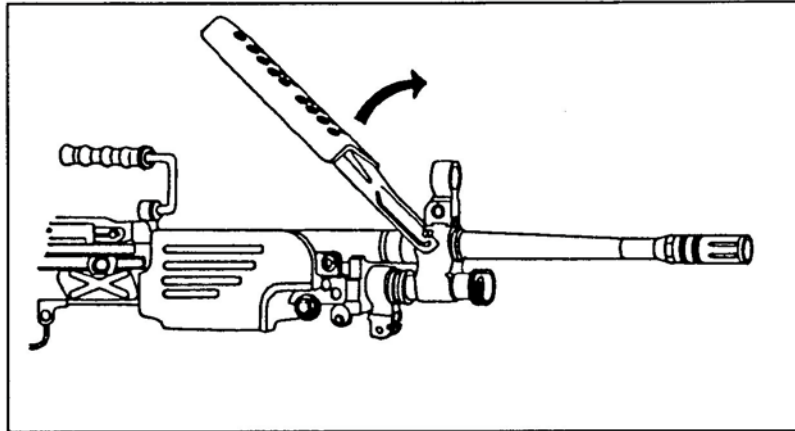

Figure 6. Removal of the heat shield.
- c. Remove the heat shield. Hold the weapon with one hand. With the other hand, grasp the heat shield just forward of the barrel handle, and lift it off the barrel (Figure 6).